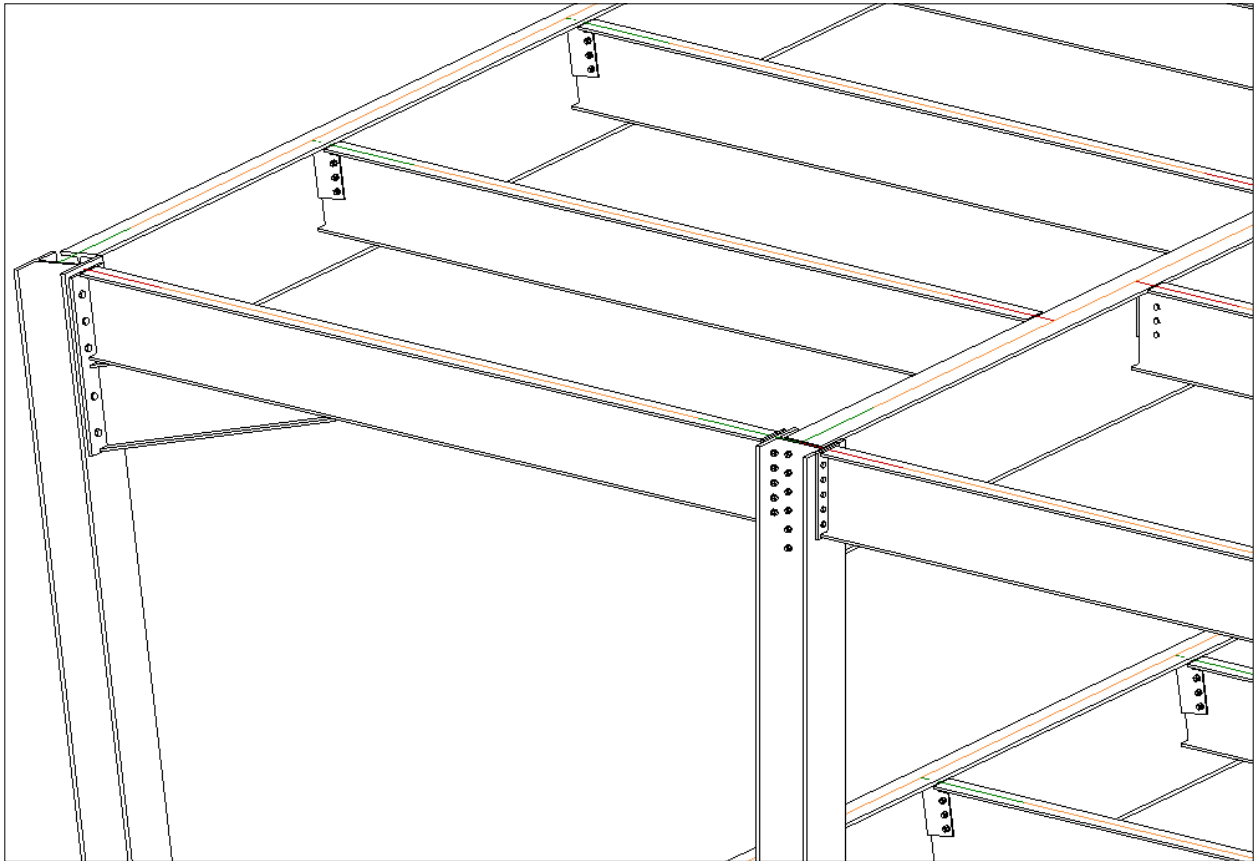

FIGURE 38: THE ZOOMED IN VIEW OF THE AUTODESK REVIT MODEL WITH CONNECTIONS
4. Select the status of all the connections and click **Apply All Actions**; all the changes will be applied to the Autodesk Revit model. Figure 38 shows the zoomed in view of the model with some connections.